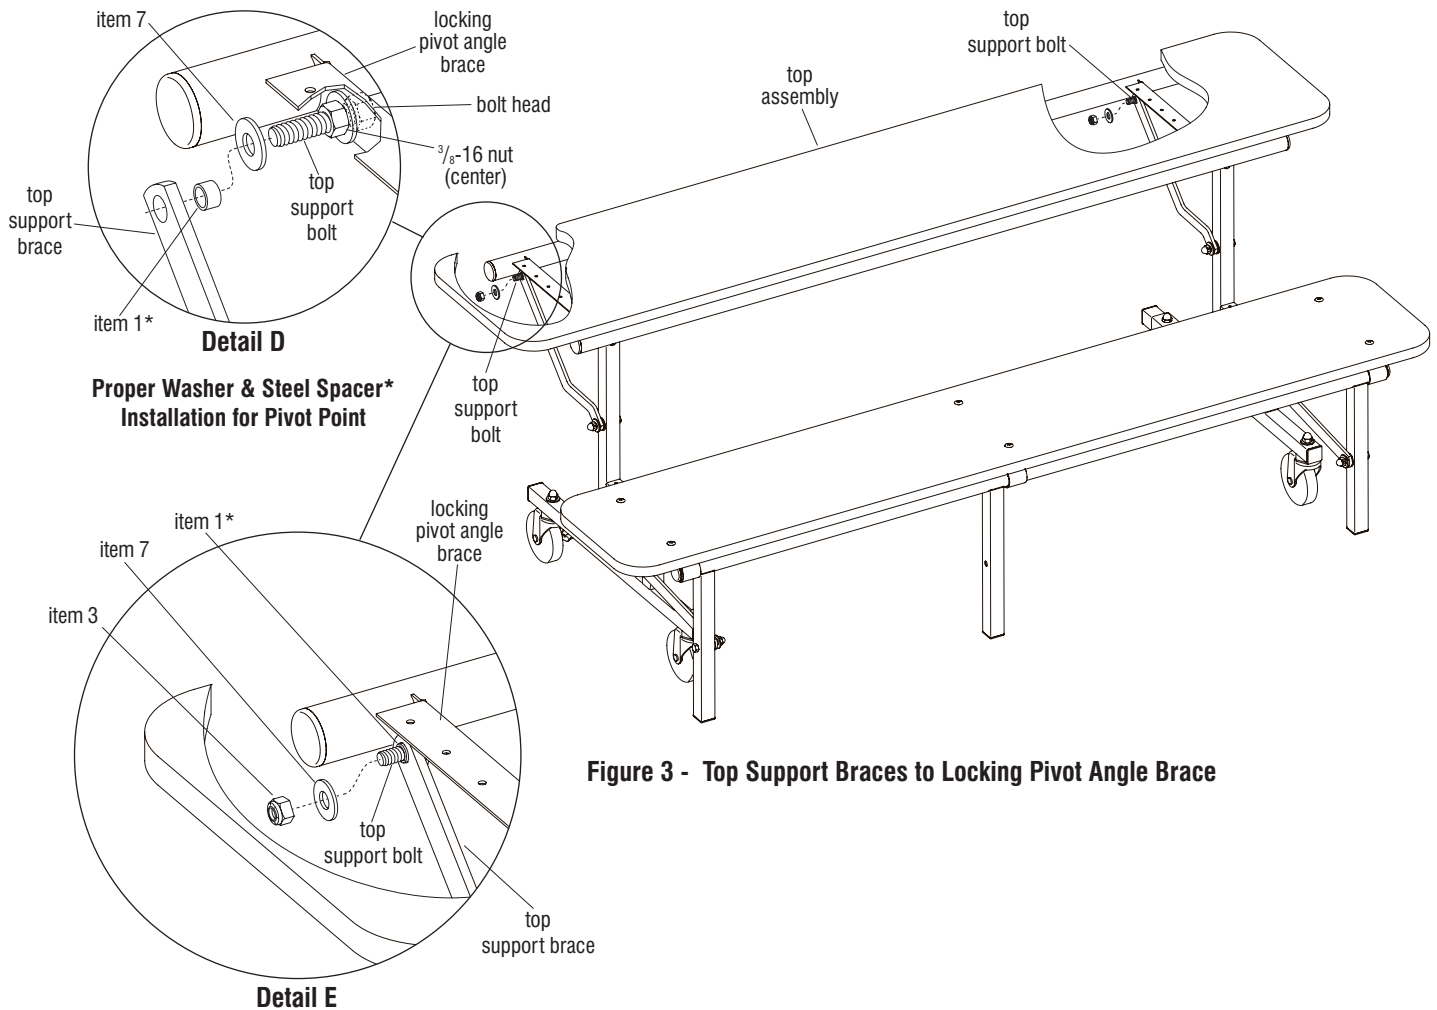

Figure 3 - Top Support Braces to Locking Pivot Angle Brace
1. Place a flat washer (item 7) and steel spacer (item 1) onto the top support bolt at each end, under the top assembly as illustrated (Figure 3 & Detail D).
2. Rotate top assembly up (Figure 3). Then rotate both top support braces up and locate each mounting hole onto the apron bolts. Spacers* go into each brace hole (Figure 3 & Detail D).
3. At each top support bolt with brace and spacer, install a flat washer (item 7) onto the bolt, then twist on and tighten a nut (item 3) (Figure 3 & Detail E).
4. To adjust the top support bolt on the locking pivot angle brace, first loosen the outermost nut (Detail E) on the top support bolt (installed in step 3). Next use two 9/16" wrenches, one to hold the bolt head (Detail D) and another to loosen the center nut (Detail D). Adjust the table to level, then re-tighten the center nut and bolt head which pinch the pivot angle brace first. Next, tighten the outermost nut on the top support bolt (Detail E). Repeat this procedure at the other end of the top assembly as necessary (Figure 3, Details D & E).